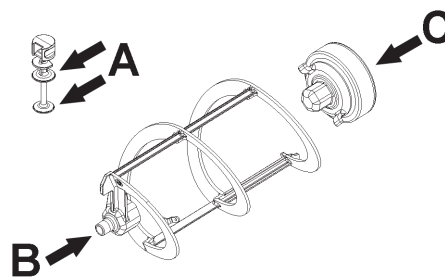
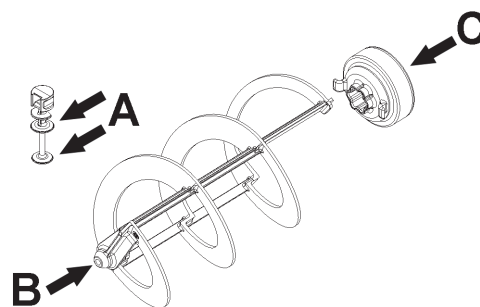

figure 16
figure 17
- 2 Lubricate the tap piston, the hexagonal joint and the mixer at the points indicated in figure 16 (B-Frozen 6) or figure 17 (B-Frozen 10), using only the grease that came with the machine
3 Reassemble the tap on the container in reverse order compared to that shown in figure 16 and figure 17.